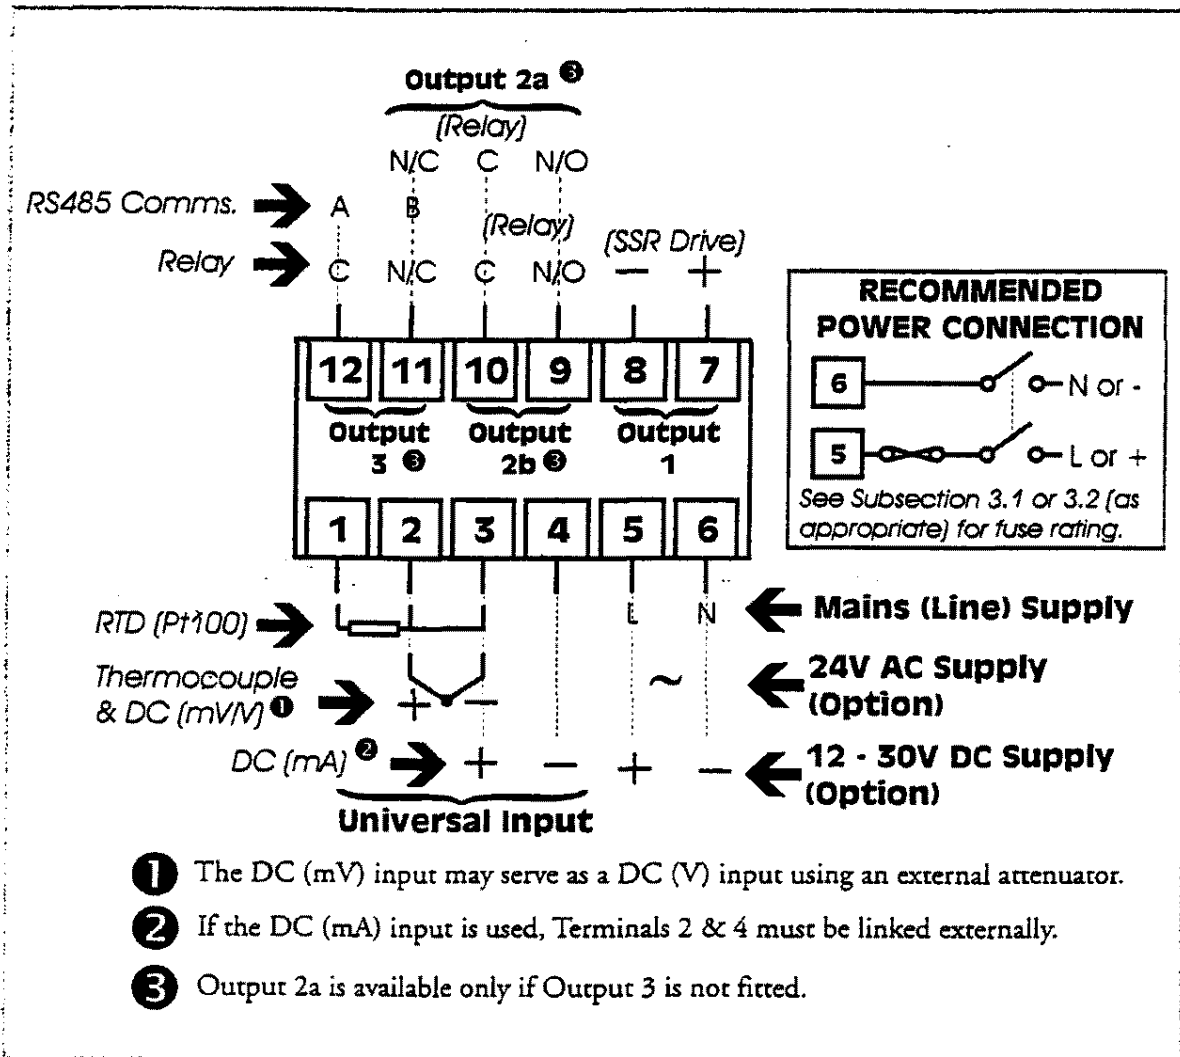

Figure 3-1 Rear Terminal Connections
**CAUTION:** This equipment is designed for installation in an enclosure which provides adequate protection against electric shock. Local regulations regarding electrical installation should be rigidly observed. Consideration should be given to prevention of access to the power terminations by unauthorised personnel. Power should be connected via a two-pole isolating switch (preferably situated near the Controller) and a 1A fuse, as shown in Figure 3-1.
This version operates on 12 - 24V AC 50/60Hz or 12 - 30V DC supply. The power consumption is approximately 4W. Connection should be made via a two-pole isolating switch and a 315mA slow-blow (anti-surge Type T) fuse (see Figure 3-1).
DC (mV) inputs are connected to Terminals 2 and 3 in the polarity shown in Figure 3-1; DC (V) inputs are connected to the same terminals with the same polarity but require an external attenuator. DC (mA) inputs are connected to Terminals 3 and 4 in the polarity shown in Figure 3-1 with Terminals 2 and 4 linked externally.